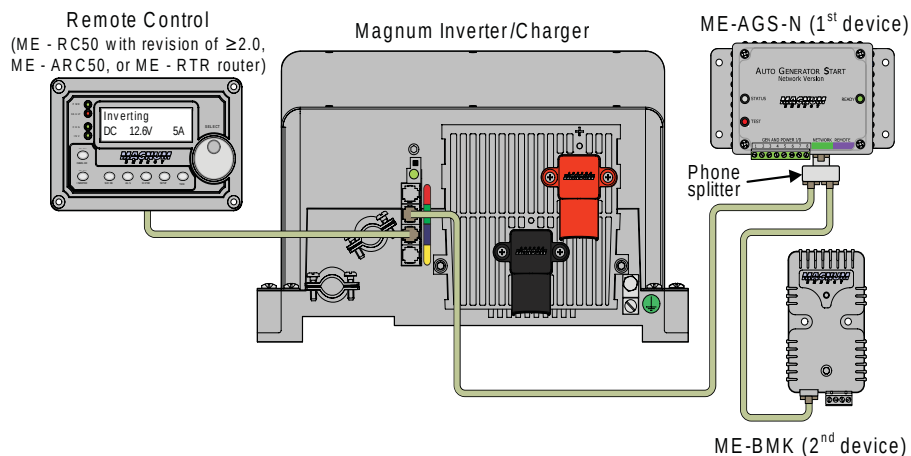

Figure 2-5, Multiple Network Devices - Daisy Chain Configuration
- **Daisy Chain Configuration** - In this arrangement, the network devices are linked in a series (see Figure 2-5). If using this configuration, the ME-AGS-N must be the first device connected to the inverter's Magnum Net or Network port – followed by the ME-BMK.